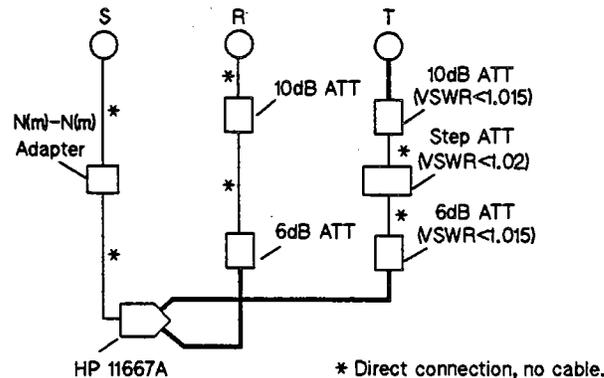

Figure 2-18. Magnitude Ratio/Phase Dynamic Accuracy Test Setup (2 of 2)
12. Swap the cables connected to the HP 4195A **INPUTS**, as shown in Figure 2-18, and repeat steps 4 and 5 (**THRU CAL**).